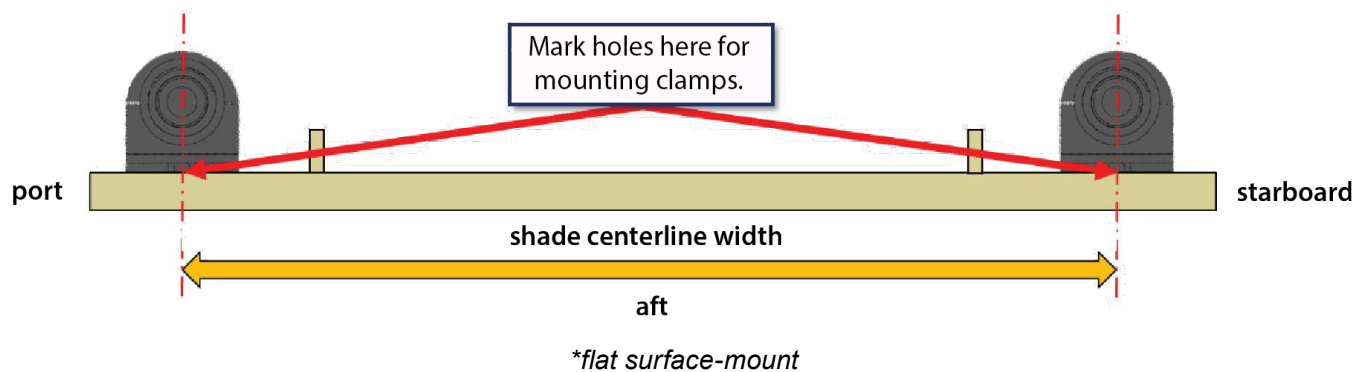

Fig.8
5. If the hardtop is flat* (Fig.8), the mounting hole locations are the same as the shade's center width for either a topside or underside mount (Fig.8).
A. For flat surface mount*, drill straight down (Fig.8).